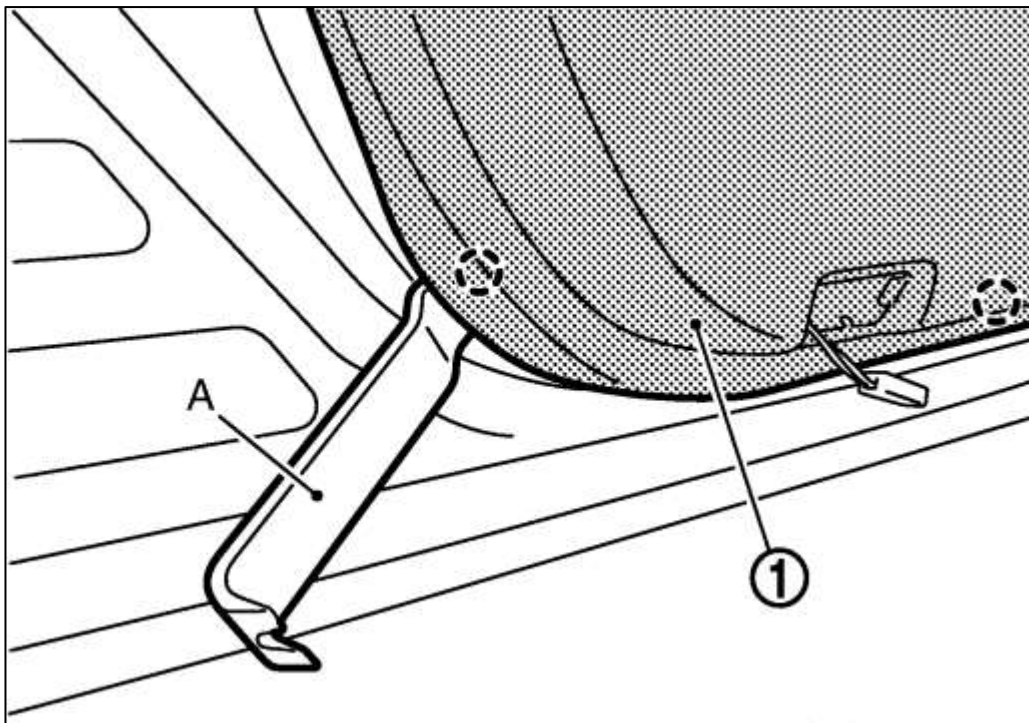

Figure 50
8. Using a Trim Removal Tool, pry the lower side of the Door Panel away from the door. Slowly go around the entire Door Panel to release it from the Door. Support the Door Panel from falling when it is released. *Figure 50.*